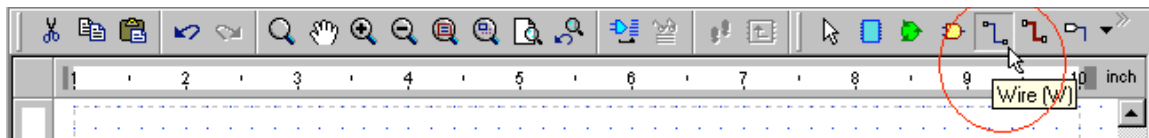

Figure 17
1. Click on the Wire icon in the toolbar (see Figure 17).